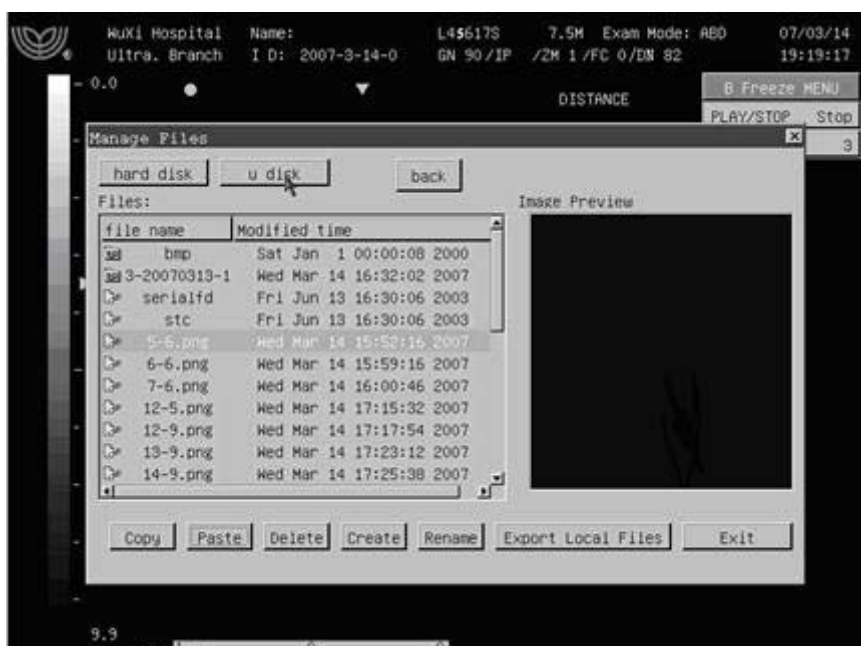

Fig. 12-13 Select the connected USB memory disk
8. Select **u disk** and all the files and directories under the root directory of the connected USB memory disk will appear (shown as Fig.12-13).